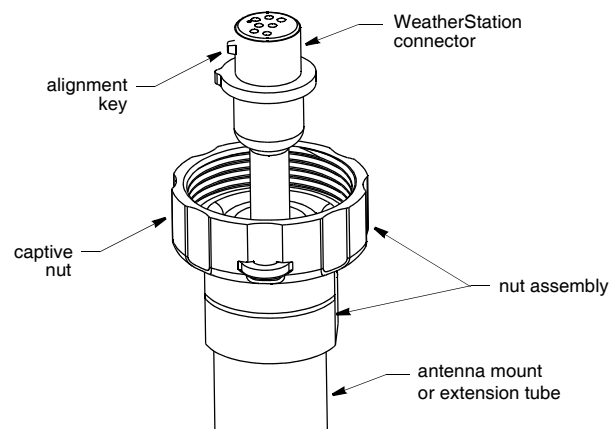

Figure 5. Attaching the cable to the WeatherStation Instrument
1. With the nut assembly on the cable near the WeatherStation connector, thread the cable through the extension tube (if used), antenna mount, and the cable exit. *Be sure to leave several inches of cable extending beyond the nut assembly* (Figure 5).